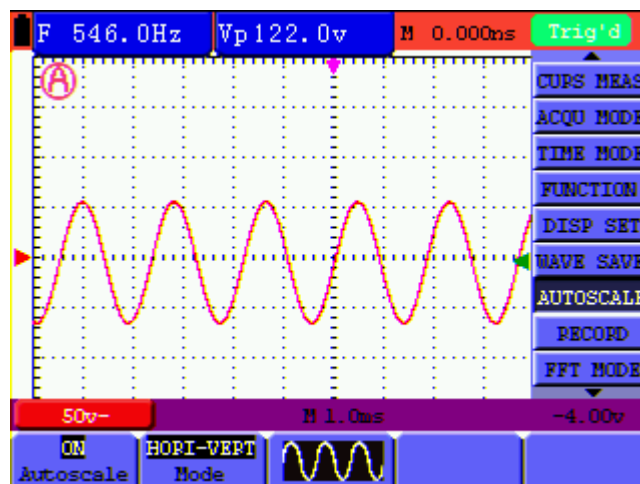

Figure 51: Autoscale Horizontal- Vertical multi-period waveforms
5. Press **F3** and  displays on the screen as figure 51: